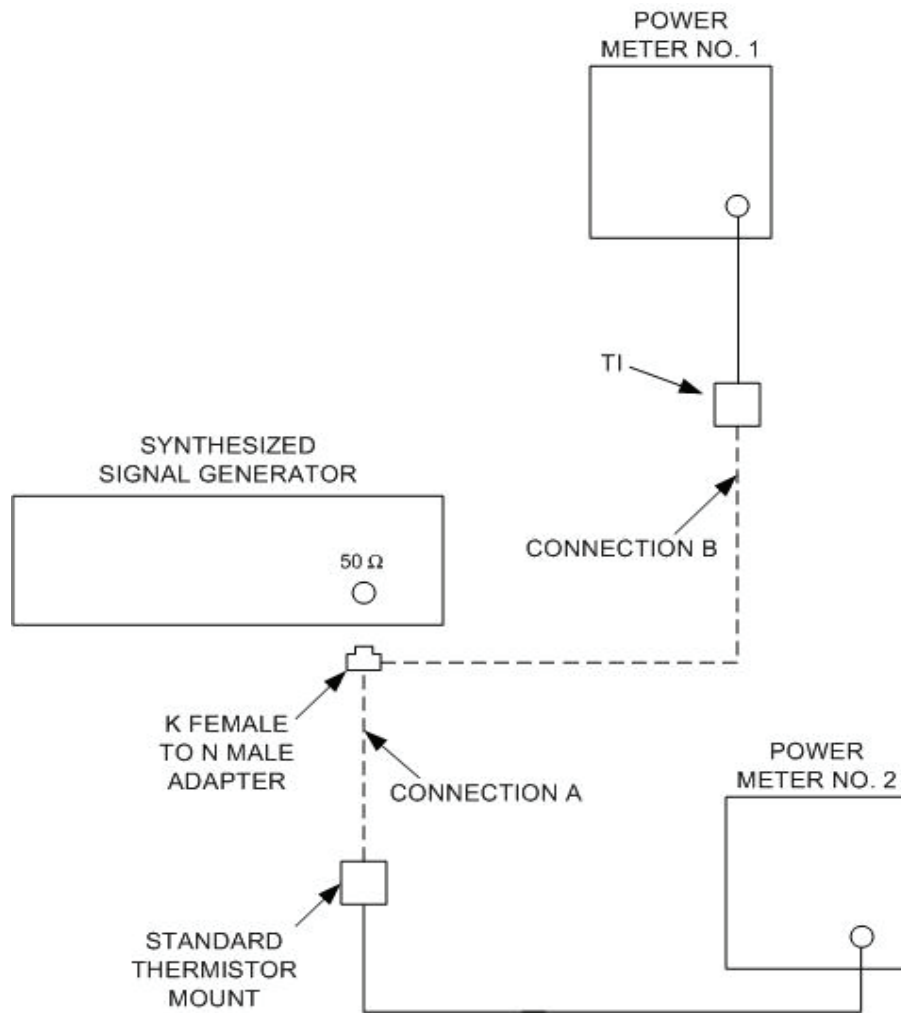

Figure 8. Calibration factor equipment setup.
- k. Connect equipment as shown in figure 8, CONNECTION A, and allow 1 hour for warm-up.
- (15) Set power meter No. 1 **RANGE** switch to **COARSE ZERO** and adjust front panel **COARSE ZERO** control for a zero meter indication.
- (16) Set power meter No. 1 **RANGE** switch to 1 mW and zero power meter No. 1.
- (17) Disconnect power meter No. 2 from synthesized signal generator and connect equipment as shown in figure 8, CONNECTION B.